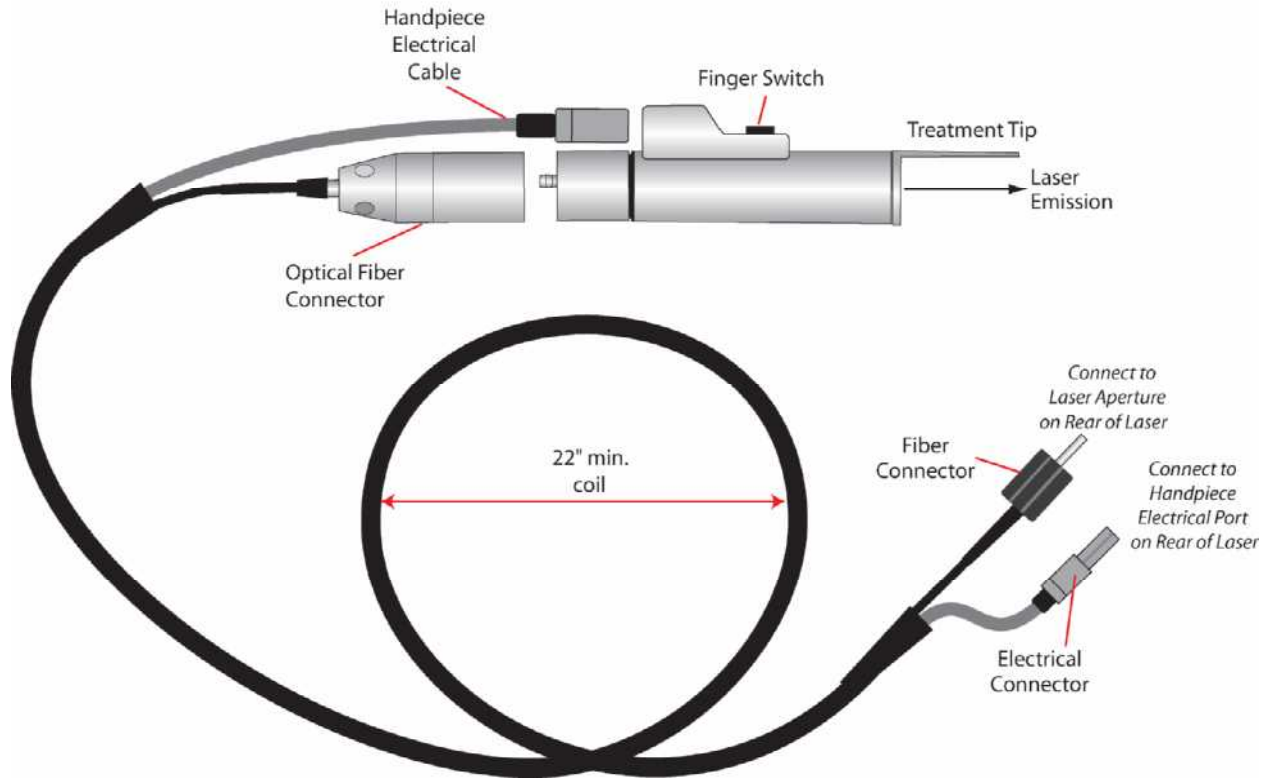

Figure 3—Handpiece
To change handpieces, remove the optical fiber connector to disconnect the fiber from the handpiece, see **Figure 3**. Then disconnect the handpiece electrical cable by pulling it from the handpiece. Connect the new handpiece, and then reconnect the handpiece electrical cable. Be sure to calibrate the laser before initiating treatment with a new handpiece.
- ◆ The Finger Switch, an electrical switch located on the handpiece, as shown in **Figure 3**.